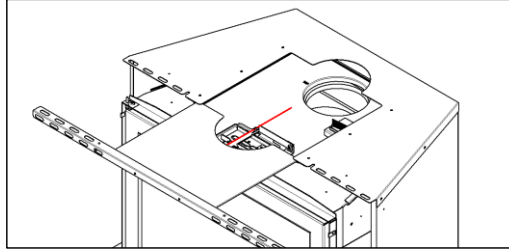
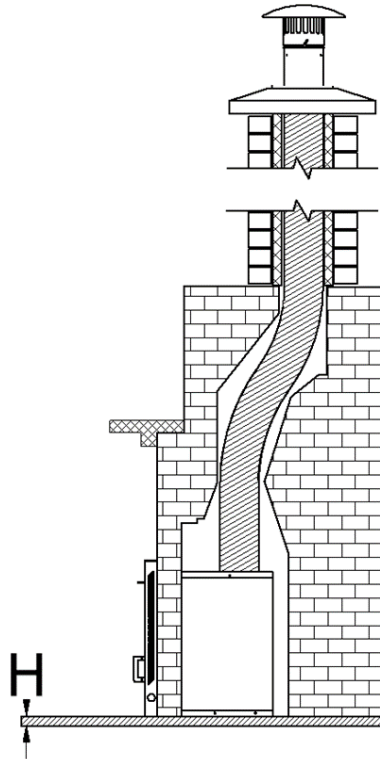

Figure 3-6: Circulating Chamber Top Removable Bracket
Figure 3-7: LUMIS Installation
- Align the liner adaptor with the top opening of the circulating chamber. Note that the top/front portion of the circulating chamber can slide off to allow for better access to the liner adaptor - loosen wing nuts on front bracket (Figure 3-6).
Refer to Figure 3-7, Figure 3-6, Table 3-2 and Table 3-3 for clearances to combustibles of the LUMIS insert.